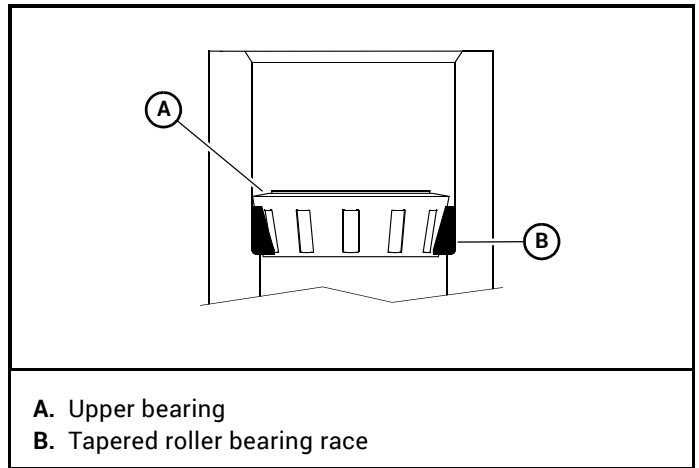

Figure 4-27
10. Install the upper bearing. Figure 4-27